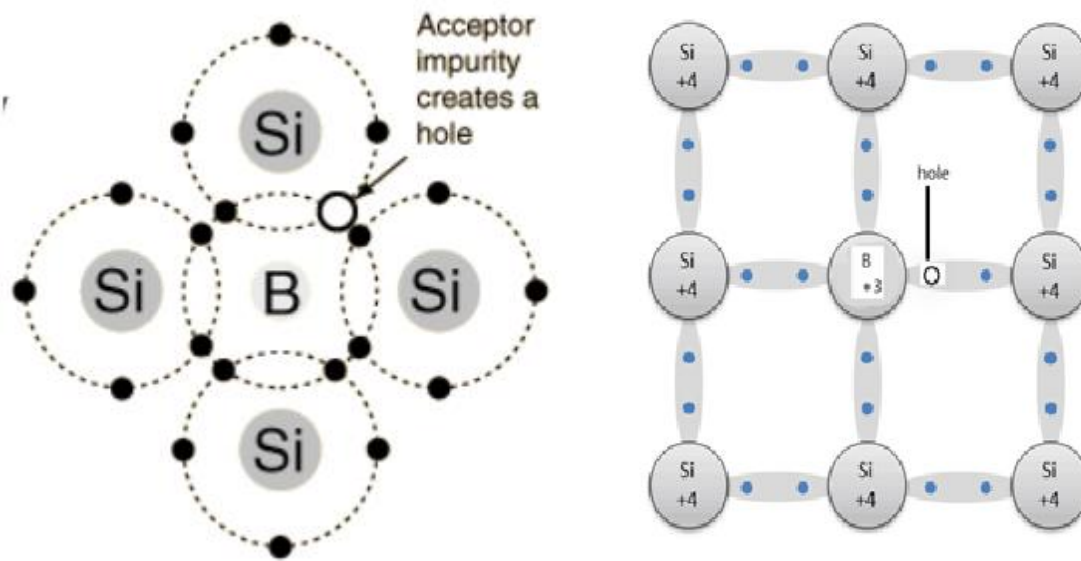

Fig7 : P-type extrinsic semiconductor
or boron (B), these elements having 3 electrons in their outermost shell react such that they form a covalent bond with the three electrons of silicon, and one hole is left free as a mobile charge carrier, which improves the conduction ability to some extent. The resultant material is known as a p-type semiconductor. Fig.7.